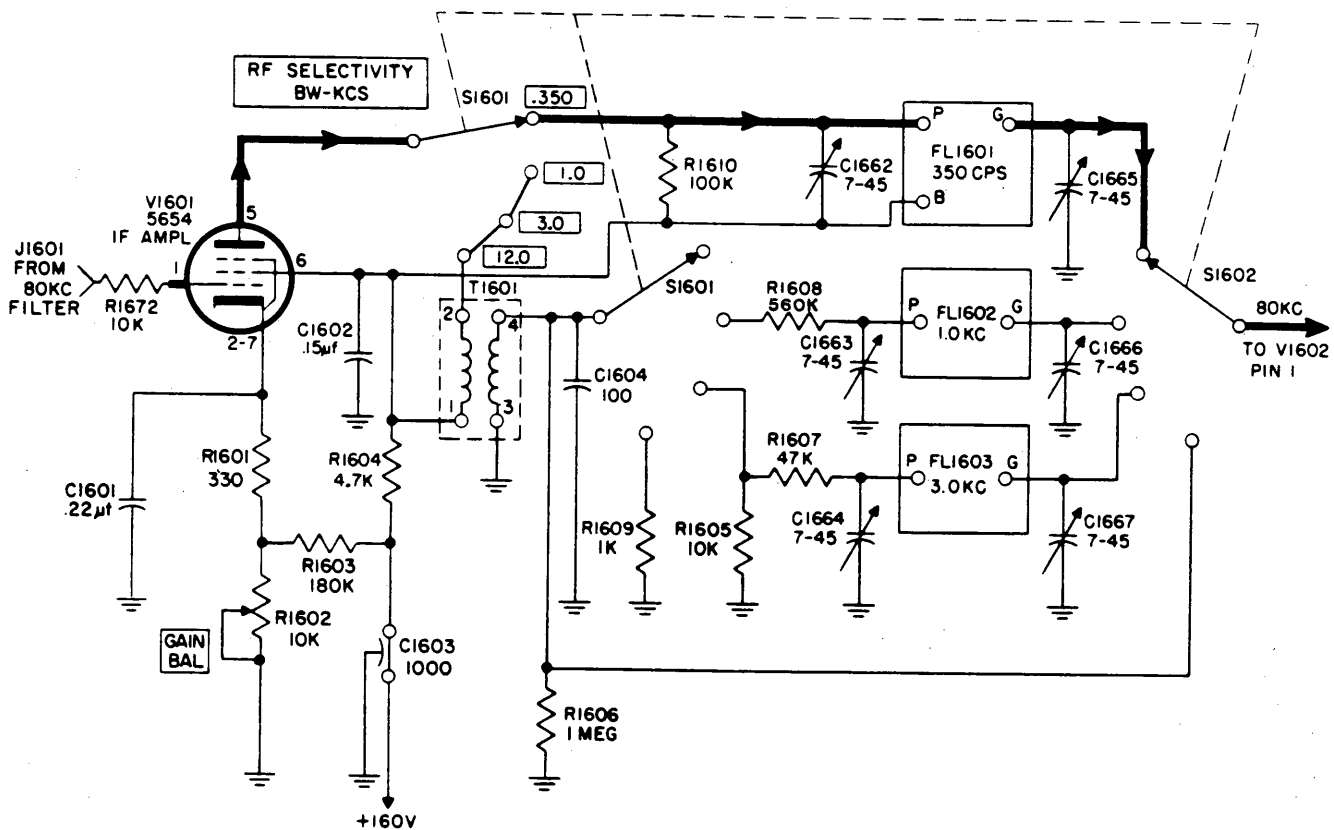

Figure 4-18. IF Amplifier V1601, Simplified Schematic Diagram
*a. 80 KC IF AMPLIFIER. (See figures 4-18 and 4-19.)*
The 80 kc IF amplifier has provisions for selection of four possible bandwidths—0.35 kc, 1 kc, 3 kc, and 12 kc, depending on the nature of received signals. These bandwidths are selected by the R.F. SELECTIVITY BW-KCS control. As shown in figure 4-18, the signal from the 80 kc IF filter is applied to IF amplifier V1601 through connector J1601. The gain of V1601 is controlled by GAIN BAL potentiometer R1602, which